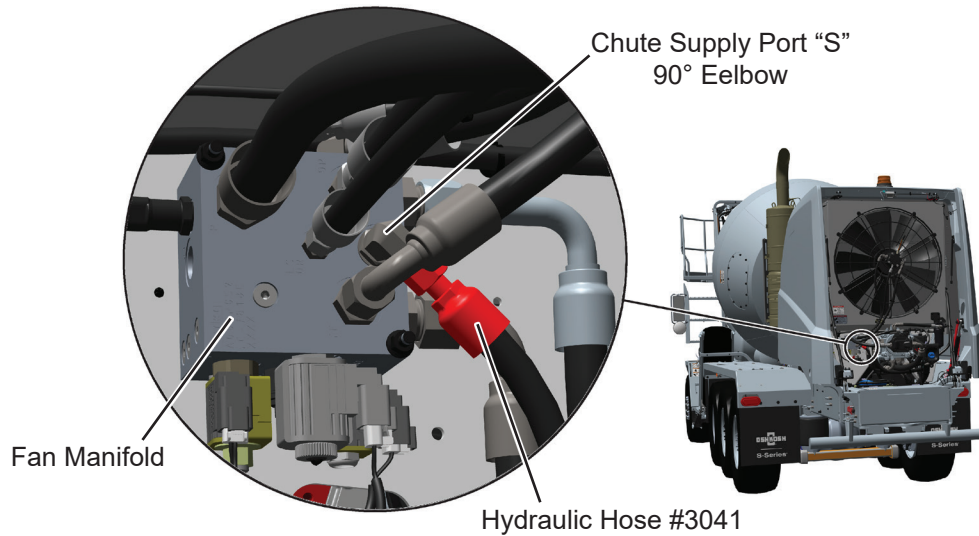

Figure 14. Fan Manifold
19. Open hood hatch and locate fan manifold. See Figure 14.
21. Loosen and remove end of hydraulic hose #3041 connected to fan manifold chute supply port "S" 90° elbow. See Figure 14.